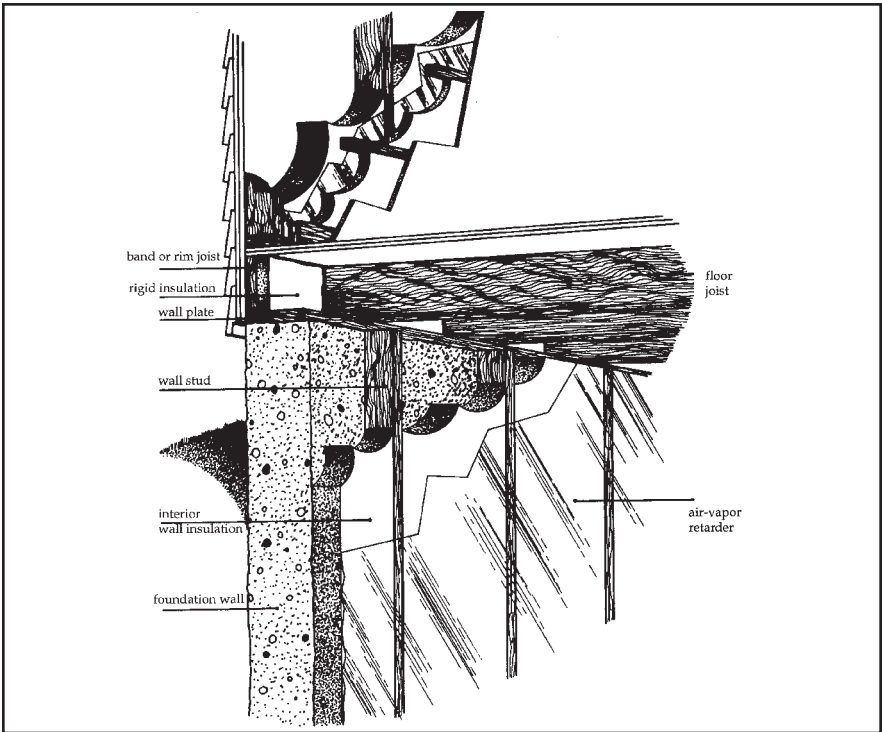

Figure 2
- The rim joist where the exterior framing meets the floor joists is a critical area to insulate and air seal, and it is often a major source of heat loss. One way to handle the problem is to first seal the rim joist against air leaks and then insert pieces of rigid insulation between the joists, covering them with sheet rock to meet fire protection standards (See Figure 2). The rim joist can also be insulated on the exterior. Discuss this with your builder.